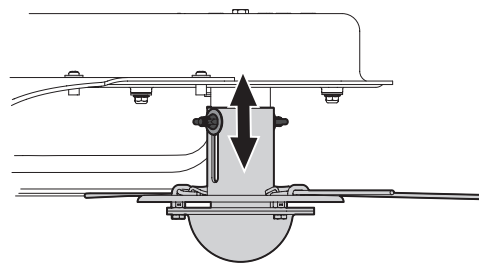

Figure 5
2. Slide the spindle upward or downward to the desired position before retightening the wing nuts. See Figure 5.